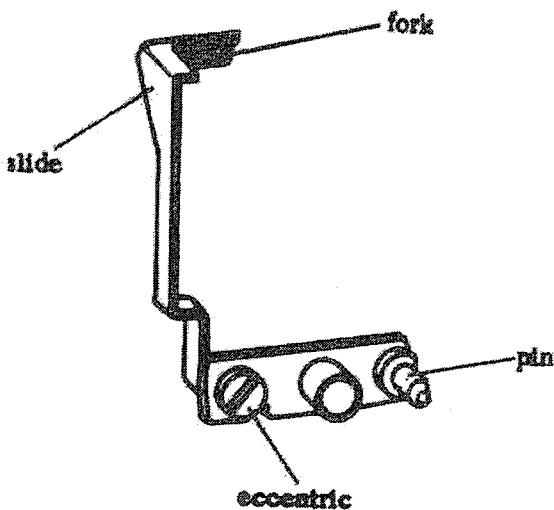

Fig. 51.1
- 1.1 To be able to define the cause of the fault accurately the shutter must first be wound and the winding lever held in position. Move the pin of the lever upwards with the slide (see Fig. 51.1). It must easily move back into its starting position. If it does this, the fault can be cured by lateral displacement of the diaphragm 11.1/1 towards the cassette chamber.
- 1.2 If after the examination described under 1.1 the pin of the lever with slide does not readily return to its original position, find out first by rotating the eccentric for the release on the lever with slide (see Fig. 51.1) clockwise and counterclockwise whether it is possible to obtain free movement. Now check the release points of the photo-resistor and the shutter (see 3.1). If necessary the slide (see Fig. 51.1) must be slightly stretched or upset.
3.1 Place the release gauge 400-071, 204-303 A 1 on the release button. The photo-resistor must be released at 0.3 but no release must take place at 0.1. Wind the shutter and hold the photo-resistor in position during release. Slowly swing the photo-resistor out of the film window. The shutter should be released when the rear edge of the photo-resistor still protrudes about 1 - 2 mm into the film window. Corrections are possible by adjustment of the eccentric (see Fig. 51.1).
If necessary the slide (see Fig. 51.1) must be slightly stretched or upset. Now the ease of movement of the pin should be checked as described under 1.1.